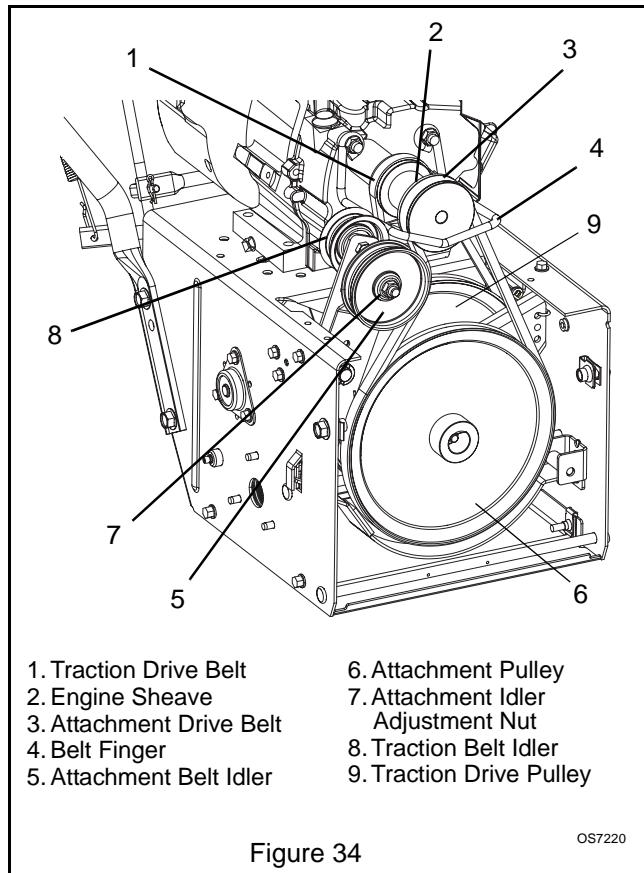

Figure 34
5. Check belt finger clearance (Figure 34).
4. Remove belt finger (Figure 34).